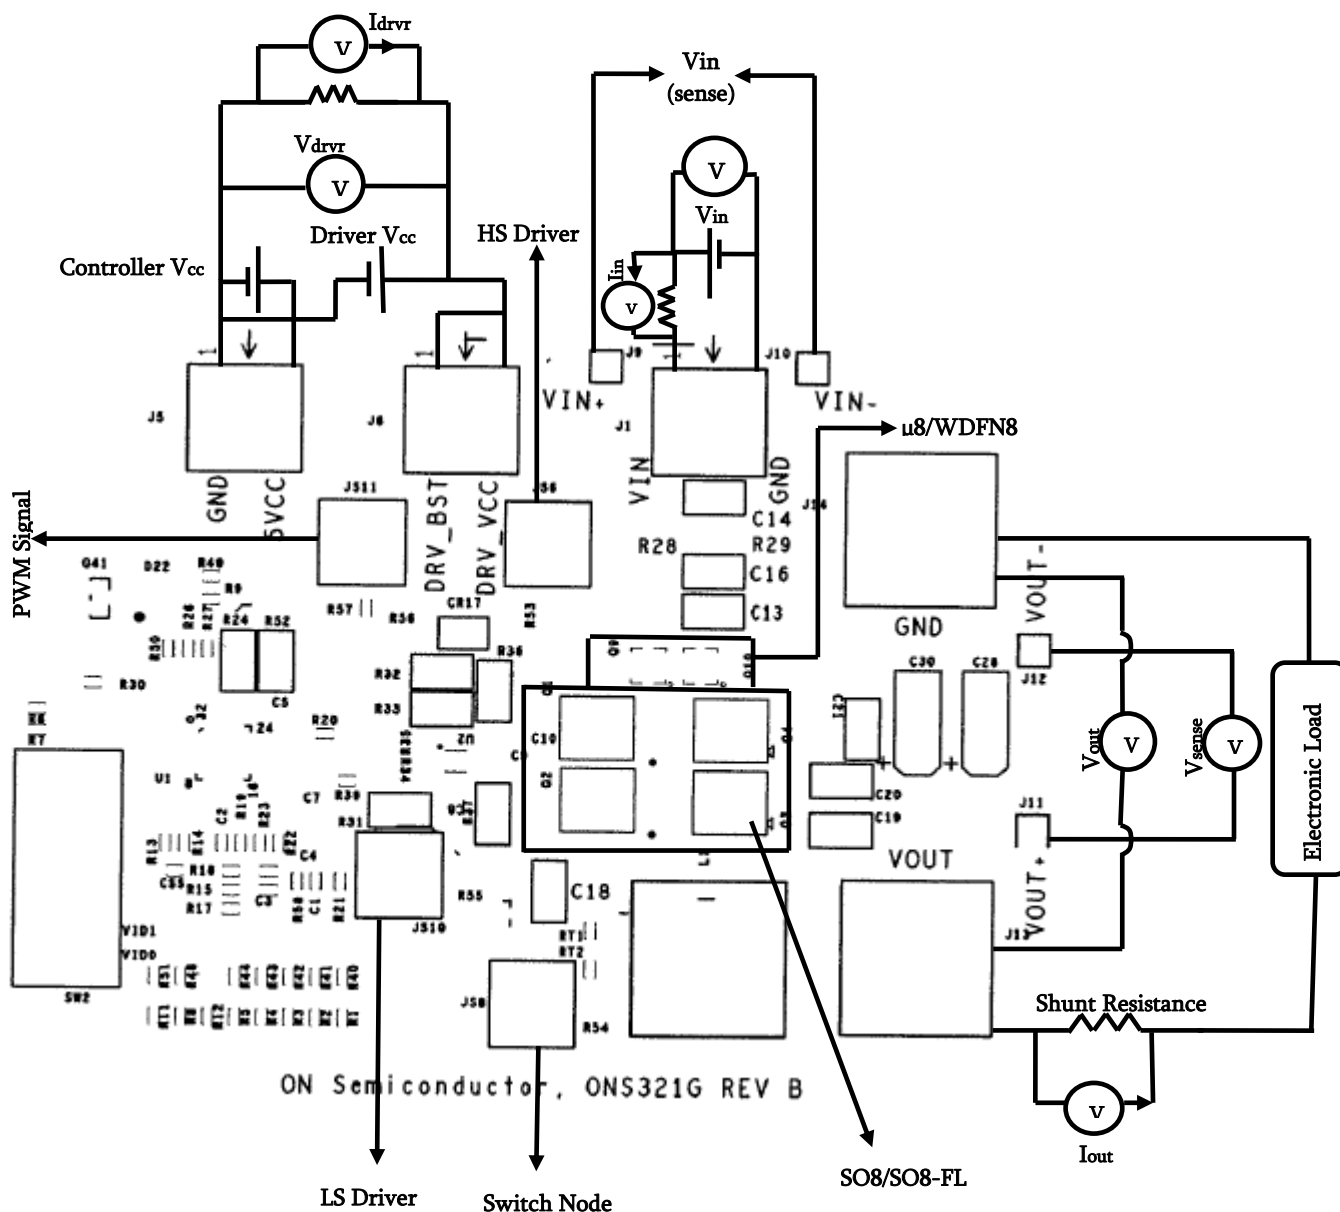

Figure 3: Schematic of the Test Setup
In the ONS321G Evaluation Board, the voltages that are to be measured are V_{in} , V_{out} and V_{drv} . Similarly, the currents that are to be measured are I_{in} , I_{out} and I_{drv} . The set up for measuring these voltages and currents, and the meters required are shown in *Figure 3*. The currents are measured across the shunt resistances that are connected across each of the terminals of input, output and driver voltages as shown in *Figure 3*. For example, the output current is measured as, $I_{out} = V_{out} / R_{sh}$. Similarly the input and driver current can also be measured. The connecting wires from the output terminal to the electronic load should be thicker in order to avoid losses and to measure the exact voltage at the end of the terminals.
The test set up, test points and components present on the ONS321G Evaluation Board are shown in Figure 3.
- (1) Before making any connections, make sure to set the power supplies for input voltage and the driver voltage at 0V. Also make sure that the load current is at 0A.
- (2) Connect the Oscillator probes at the desired test points.
- (3) Set the driver voltage to the required value (For example, $V_{drv} = 5V$).
- (4) After reaching the required driver voltage, set the input voltage as required. (For example, $V_{in} = 12V$).
- (5) Set the load current slowly to the desired value. For example, $I_{out} = 2.5A$. (Refer to *Start Up Procedure #4*).
- (6) The frequency is already set to 330 kHz. If a different switching frequency is required, R13 and R14 have to be changed as per the data sheet of NCP5386. (Refer to *Appendix*).
- (7) Connect the voltmeters/multi-meters to monitor the required parameters. (Refer to *Figure 3*).
- (8) Obtain the required data and waveforms.